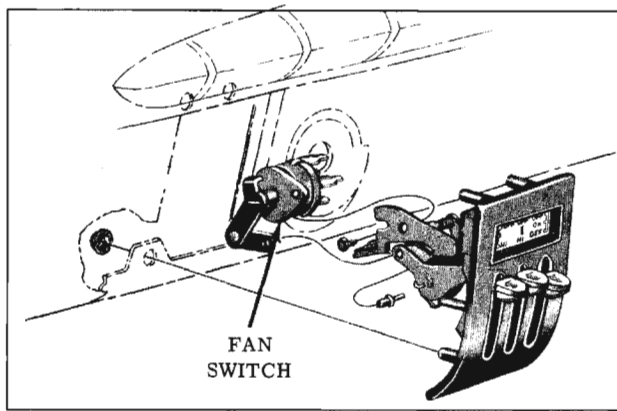

Fig. 15-106 Heater Control and Fan Switch
3. Remove three control to instrument panel nuts and remove control assembly. (Fig. 15-106)
1. With control assembly removed, remove nylon rivet which retains switch link to control lever. (Fig. 15-106)
1. With switch control lever in "OFF" position, place switch on control, retain with attaching screw and install link-to-lever nylon rivet. (Fig. 15-106)